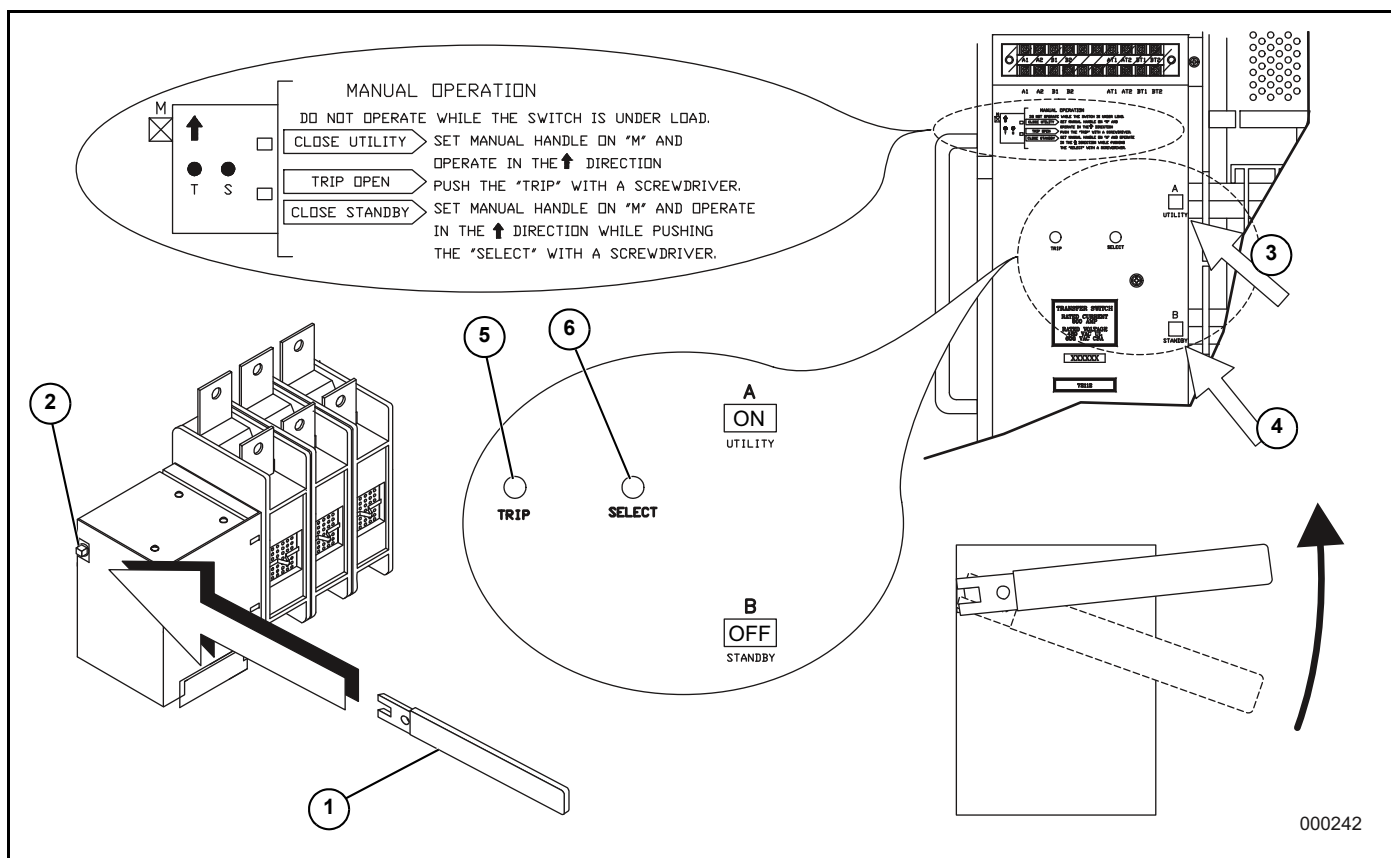

Figure 4-1. Actuating Transfer Switch
A manual handle is shipped with the transfer switch. See 1 in Figure 4-1. Manual operation must be checked BEFORE the transfer switch is operated electrically. To check manual operation, proceed as follows:
3. Note position of transfer mechanism main contacts by observing display windows in “A” and “B” (3 and 4 respectively, in Figure 4-1) as follows:
Remove handle from the square lug at the upper left corner of the switch. Insert a screwdriver into the “TRIP” hole (5 in Figure 4-1) and push inward. The main contact should trip to the neutral position and the word OFF should appear in both Windows “A” and “B”.
With handle attached to the actuating shaft. Insert screwdriver into hole marked “SELECT” (6 in Figure 4-1). While pushing inward on screwdriver, move manual handle upward as indicated by arrow in illustration until it stops. DO NOT FORCE. Confirm main contacts close to STANDBY source when Window “B” is ON and Window “A” is OFF. Remove handle from switch.